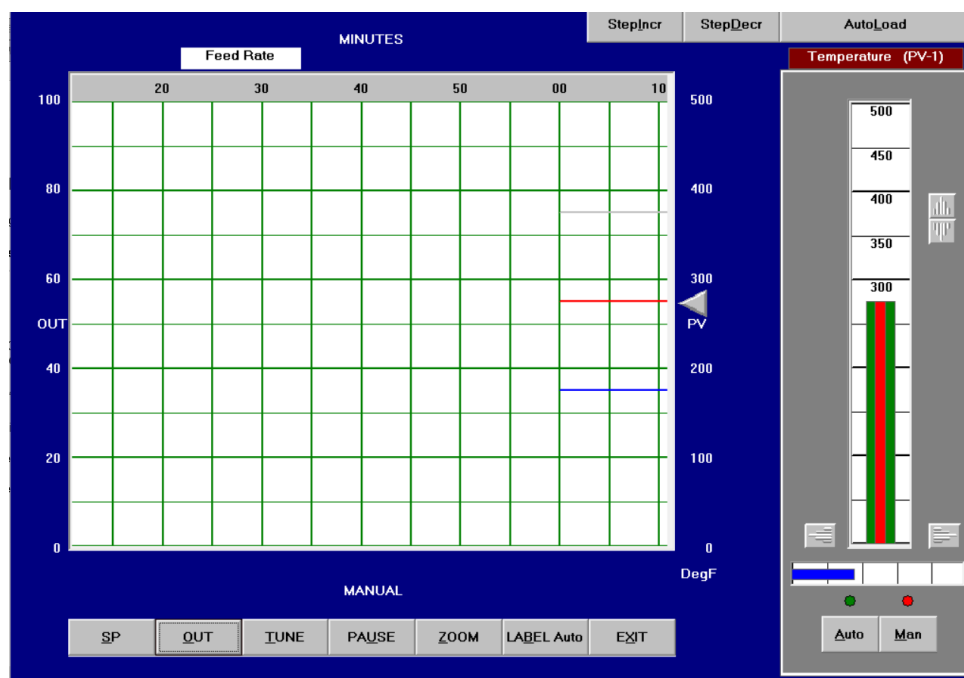
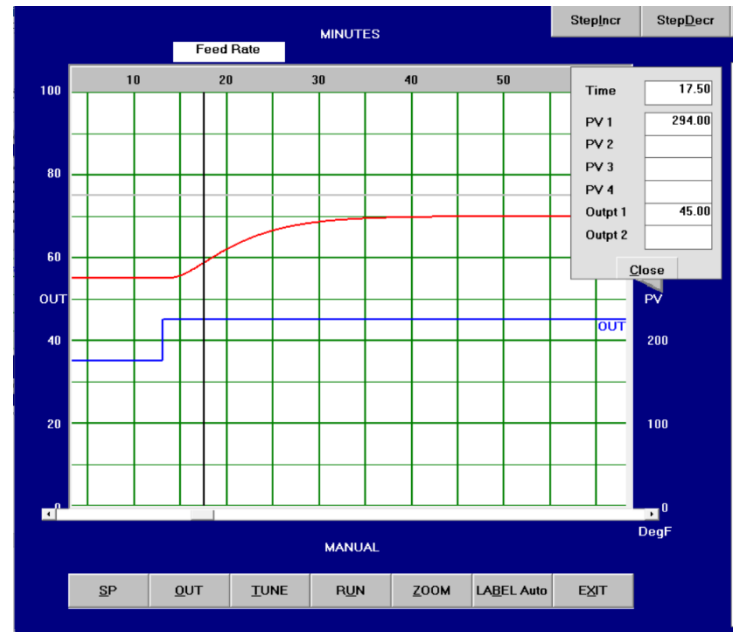

Figure 1. Confirming 'GENERIC' and 'FEEDBACK'
Figure 14. Time of 25% of PV change
- (See Figure 1 at the back of this exercise on how to estimate process parameters.)
- Process gain (KP) = $\frac{75}{\frac{500}{10}} = 1.5$
- $t_{25} = t(PV = 275 + 75 * .25 = 293.75) = 17.50 - 13.00 = 4.5 \text{ minutes}$ (as shown in fig 14)